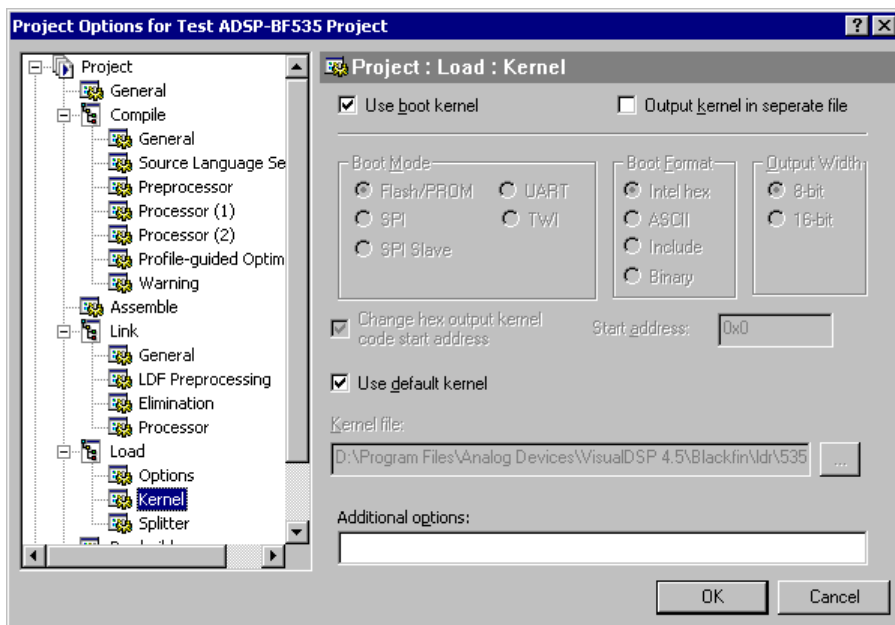

Figure 2-40. Second-Stage Load Page for ADSP-BF535 Processors
Figure 2-40 shows a sample **Kernel** page with options set for a ADSP-BF535 Blackfin processor.
2. Select **Kernel** (under **Load**) to set up the second-stage loader options (Figure 2-40).